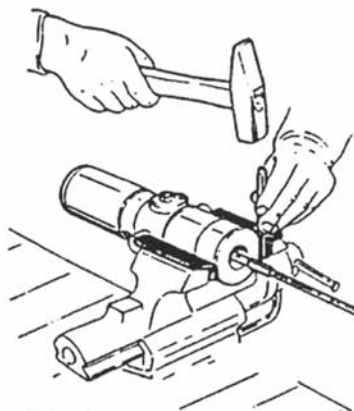

Fig. 2
Far uscire le spine elastiche (51) come indicato in Fig. 2.
$\frac{88}{91/1} - \frac{88/1}{91/2} - \frac{91}{91/3}$  e l'anello di congiunzione (94). Per smontare il pompante a semplice effetto, bloccare in morsa la pompa come indicato in fig. 2 quindi svitare il filtro 100 ed eseguire le stesse operazioni sovradescritte per pompante a doppio effetto.
**WARNING!** *Do not clamp with force the tube (86-97-105-107) in order to not deform it. Remove the lockpins (51) as indicated on Fig. 2.*
*To disassemble the double acting pumping elements, clamp in a vice the ring (94), unscrew the filter body (100), the tube (97), and the ring (94) from the tube (86-105-107).*
*To disassemble the single acting shank, clamp in a vice the pump as indicated in fig. 2 than unscrew the filter 100 and perform the same operation above mentioned for double acting shank.*